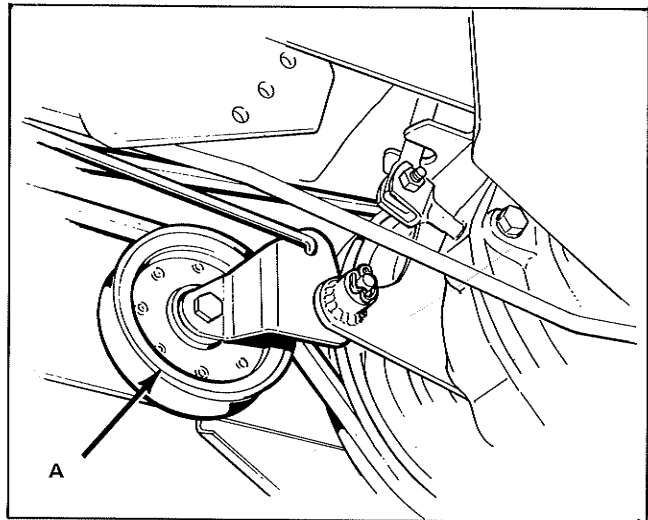

Figure 31. Clutch Rod Adjustment
2. Firmly press the clutch idler pulley (item A, figure 31) against the drive belt (item B) to take all slack out of the drive belt.